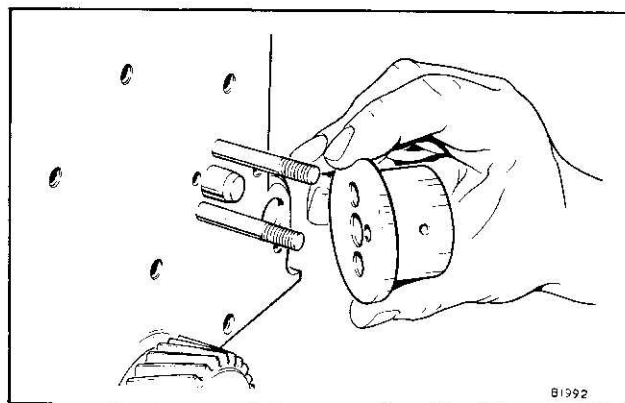

Fig. 6
1. Ensure that all parts are clean, fit the idler gear hub, Fig. 6.